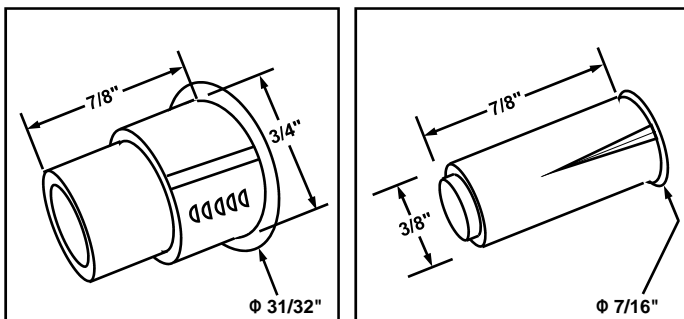

FIG. 18: DOOR CONTACT MAGNET (3/4" or 3/8" DIAMETER)
- C. For one of the two **Door Contact** (magnet) types provided with your lock, note its dimensions in Fig. 18. Drill into the door jamb as follows: